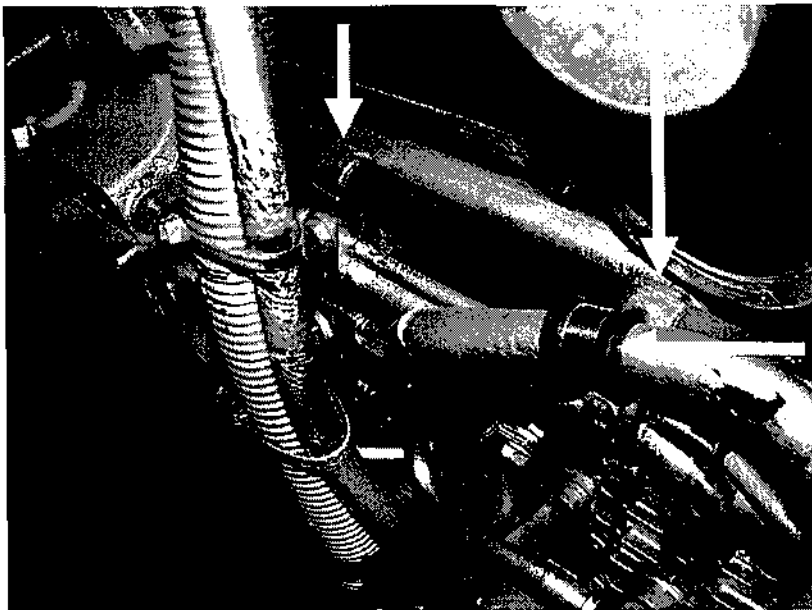

Figure 8 Steel Fuel Line Clamp Installation (EPA07 Configuration)
5. Install fuel line clamps in their original positions. Clamps must go over foam covered areas of the fuel lines. See Figure 8.